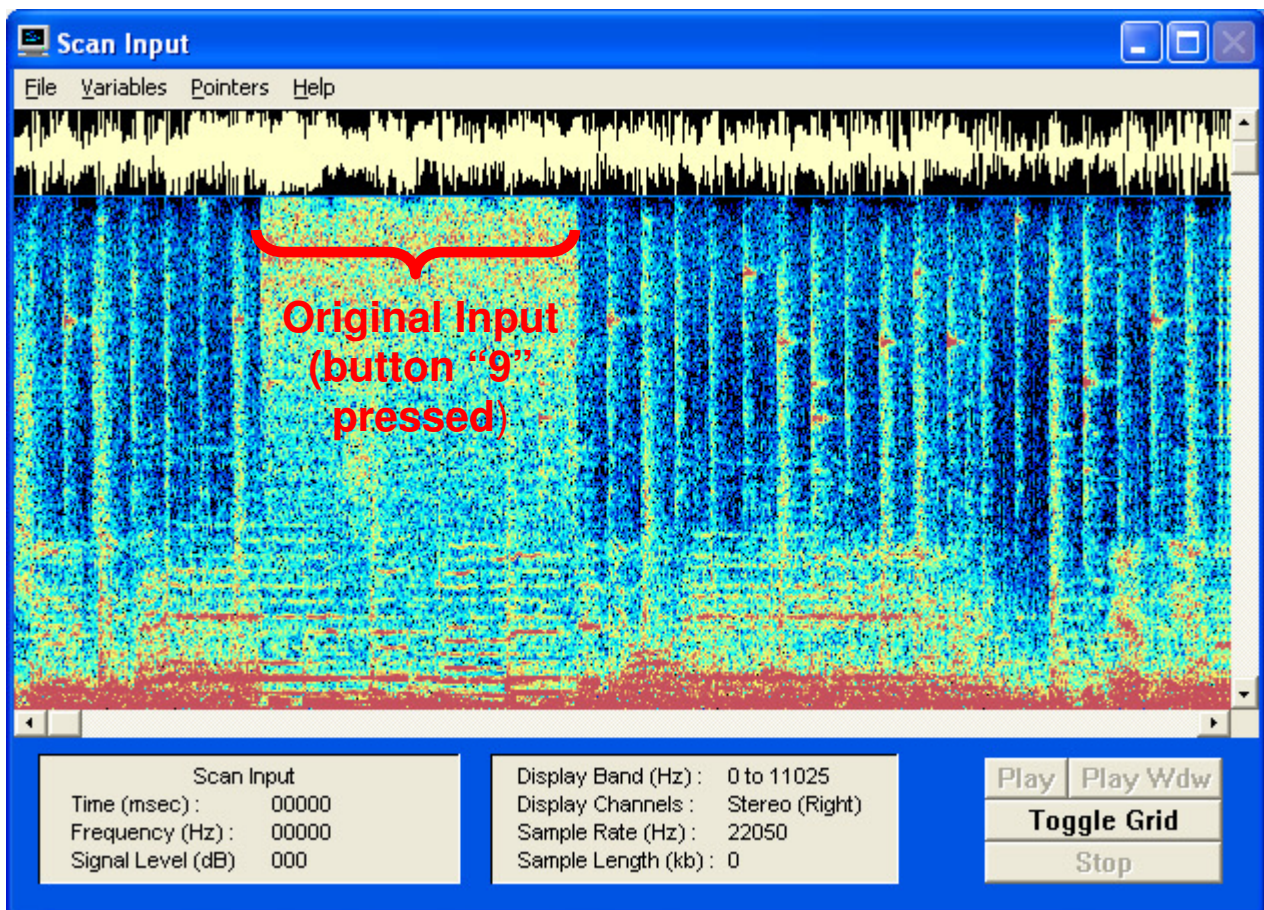

Fig. 3: FFT Scope output
6. See result in FFT scope window as illustrated in Fig. 3.